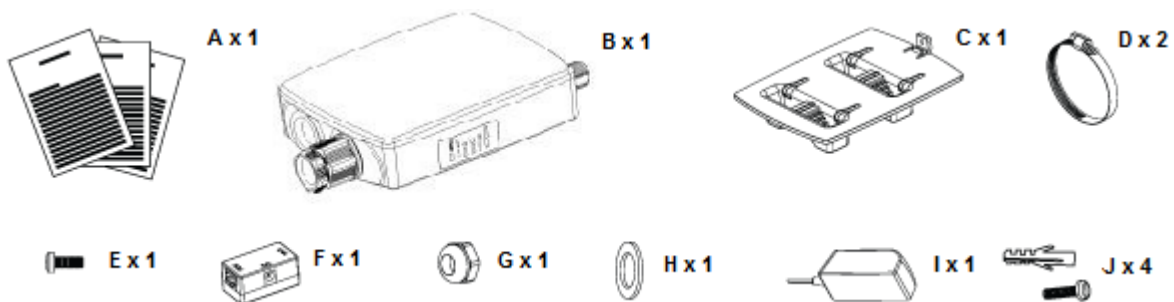

Figure 1 – APC 5M V2 Package Contents
- Step 2.** Insert the clamps (item D in the *Figure 1 – APC 5M V2 Package Contents*) on the mounting plate (item C in the *Figure 1 – APC 5M V2 Package Contents*) as displayed below:
- Step 5.** Connect Ethernet cable into the APC 5M V2 then insert a rubber gasket (item H in the *Figure 1 – APC 5M V2 Package Contents*) into CAT5 Ethernet connector gland and tighten with gland cap (item G in the *Figure 1 – APC 5M V2 Package Contents*) as displayed below:
- Step 6.** After attaching the APC 5M V2 to the mounting plate, fasten the unit to the bottom near the CAT5 Ethernet plug using screw (item E in the *Figure 1 – APC 5M V2 Package Contents*).
- Step 2.** Attach APC 5M V2 mounting plate (item C in the *Figure 1 – APC 5M V2 Package Contents*) to the wall using screws (item J in the *Figure 1 – APC 5M V2 Package Contents*) as displayed below:
- Step 3.** Connect Ethernet cable into the APC 5M V2 then insert a rubber gasket (item H in the *Figure 1 – APC 5M V2 Package Contents*) into CAT5 Ethernet connector gland and tighten with gland cap (item G in the *Figure 1 – APC 5M V2 Package Contents*) as displayed below:
**Step 5.** After attaching the APC 5M V2 to the mounting plate, fasten the unit to the bottom near the CAT5 Ethernet plug using screw (item E in the *Figure 1 – APC 5M V2 Package Contents*.)